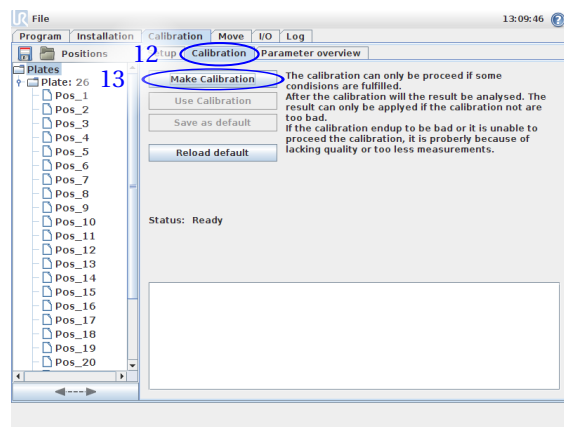

Figure 1.10: Select the calibration tab and press "Make Calibration" to start the calibration.
(12) The calibration is started from the "Calibration" tab, see figure 1.10.
(13) Start the calibration by press "Make Calibration", see figure 1.10.